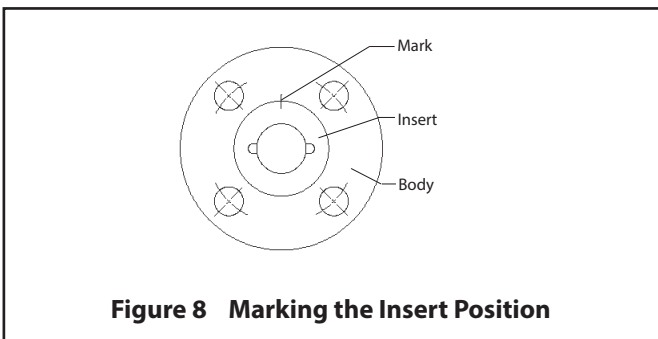

Figure 8 Marking the Insert Position
- E. Press the seals (7) and (24), or (8), up into the lower stem bore.
- F. From the outside, insert the upper stem seal (8).
- G. Press the stem (4) up into the stem bore until resistance is felt from the lower stem seal. Go on to Step 2.
- A. From inside the body cavity, first insert the secondary stem seal (7) and then the lower stem seal (24) (for fire-tested valves), or insert only the lower stem seal (8) (for non-fire-tested valves), up into the lower stem bore.
- B. From the outside insert the upper stem seal (8) into the upper stem bore.
- C. Insert the stem (4) into the body cavity and press it gently up into the stem bore until resistance is felt from the lower stem seal. Be careful not to scratch the seals. Go to Step 2.
2. Holding the stem in place from inside the body, drop the compression ring (21) and the stem nut lock (15) into place. Screw on the stem nut (16) and torque to the value shown in **(Table 1)**.
4. If you have a torque wrench, skip this step and proceed to Step 5. Screw the insert (2) into the body until it is fully seated. Use a pencil or felt tip marker to mark the position as shown in **(Figure 8)**. Counting the number of turns, remove the insert.